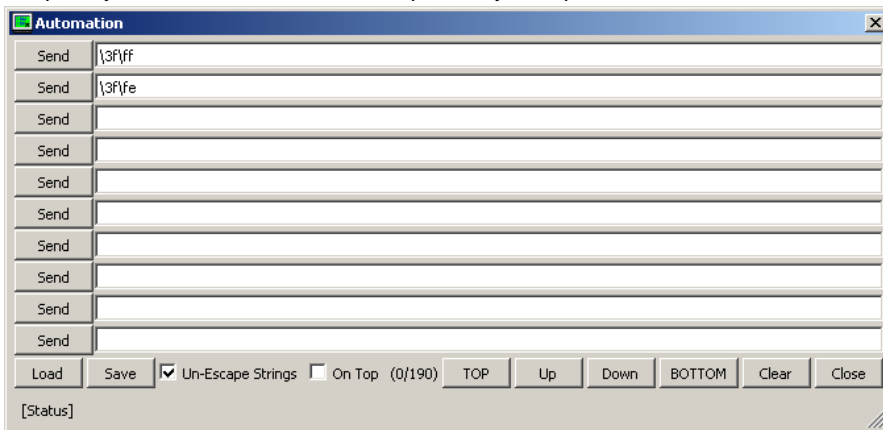

Figure 10: Automation dialogue
4. In the following screen, modify the fields as shown in Figure 10.